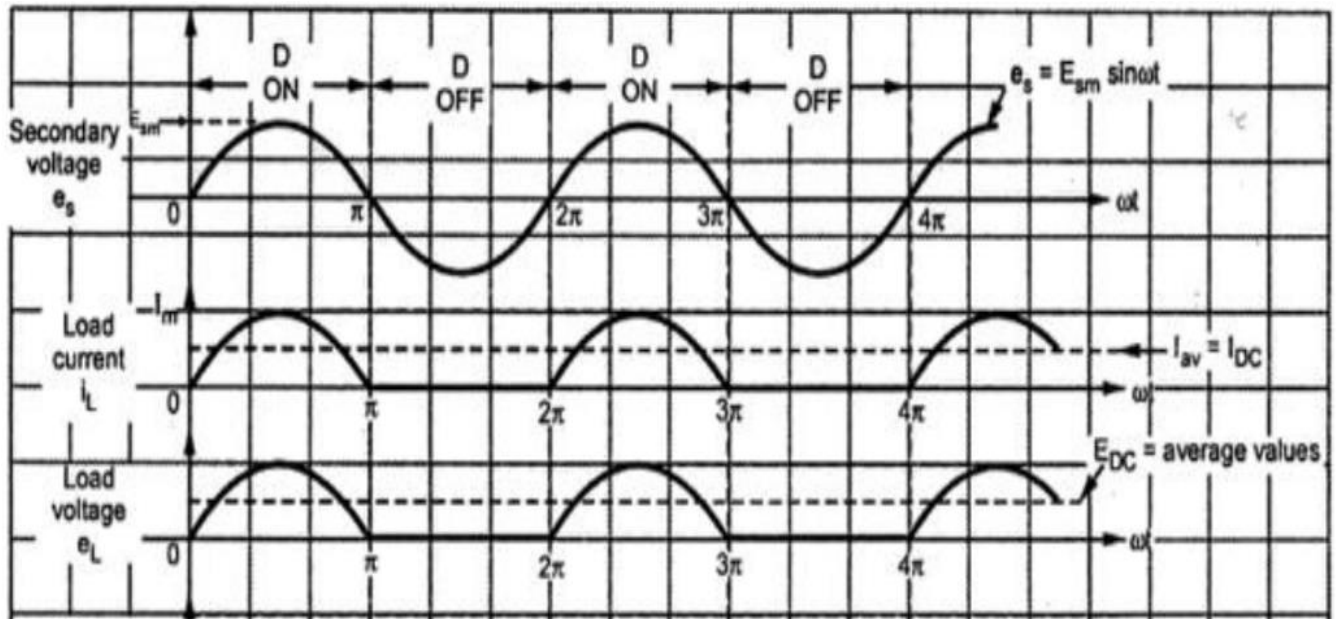

Fig. 2.2 Waveforms of Half wave Rectifier
- The different waveforms are illustrated in Fig. 2.2.